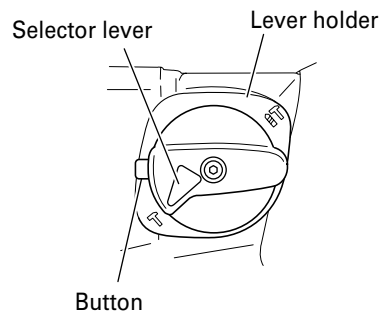

Fig. 7
- (1) Switching to “hammering”
- (b) Align ▲ of the selector lever and ▶ of the lever holder as illustrated in Fig. 7.